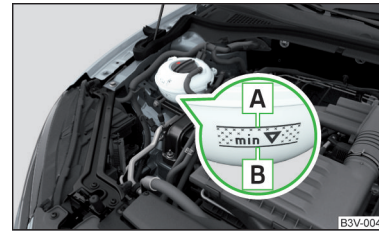

Fig. 231
» Fig. 231 on page 211.
- Do not fill the coolant above the mark **A** » Fig. 231 on page 211.
**Coolant expansion reservoir** » Fig. 231
➤ Check the coolant level in the coolant expansion tank » Fig. 231.
If the engine is warm, the test result may be inaccurate. The level can also be above the mark [A] » Fig. 231.